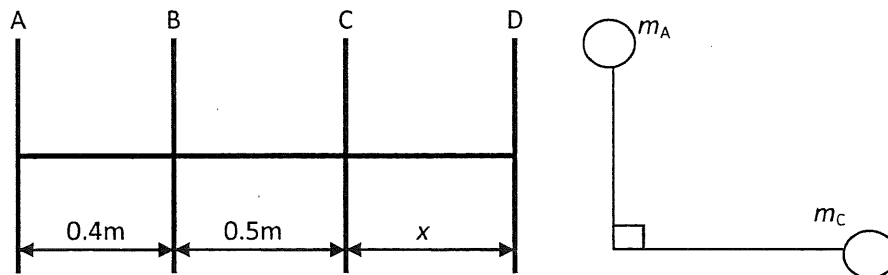

Figure 3
- c) A rotating shaft at constant angular velocity carries four masses, A, B, C and D, rigidly attached to it as shown in Figure 3 and the centers of mass are at 30 mm, 36 mm, 39 mm and 33 mm respectively from the axis of rotation. The mass of A, C and D are 7.5 kg, 5 kg and 4 kg. The axial distance between A and B is 400 mm and that between B and C is 500 mm. The eccentricities of A and C are 90° to one another and B is starting point. If the system is fully balance, **determine**